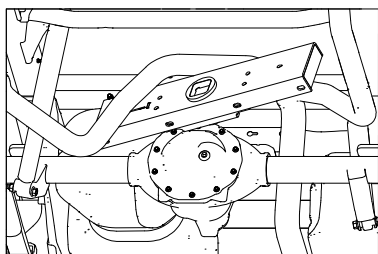
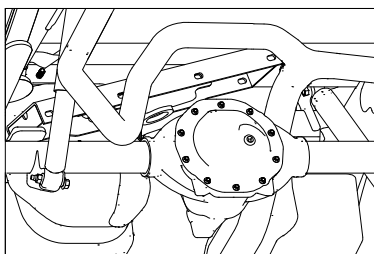

Figure B3: View looking up over axle.
Figure B4: View looking up over axle.
2. **Install center section.** Starting behind the differential under the truck, hold the center section so that the top of the center section is facing towards the back of the truck and the latch pin handle is on the driver side, see Figure B3. Position the center section over the differential and axle and move it towards the driver side between the frame and the axle. Move the center towards the driver side far enough that the passenger side of the center can be lifted up past the exhaust, see Figure B4. Roll and lift the center up towards the passenger side of the truck so that the top of the center is towards the bed and the passenger side of the center is over the exhaust. Lift the driver side of the center up and forward so that it is positioned over the fuel tank.